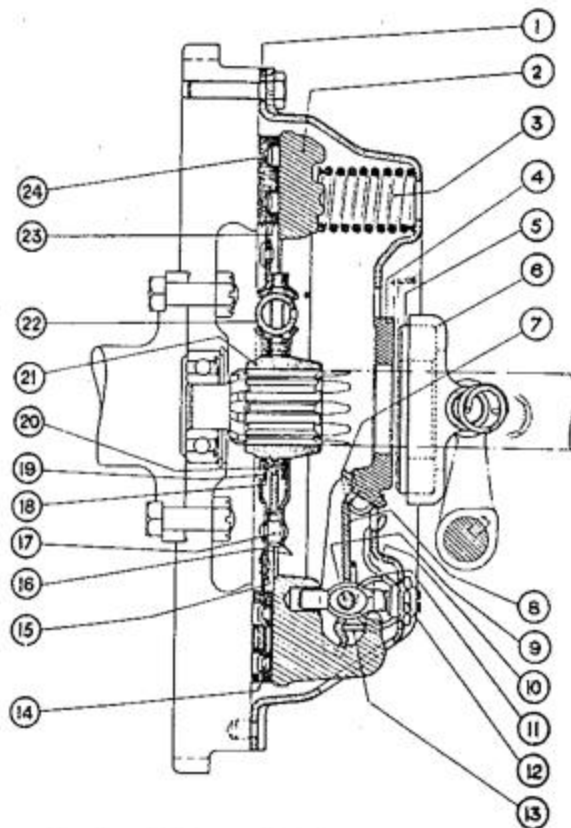

Fig. 1. Sectional view of clutch.
GENERAL DESCRIPTION (See Fig. 1)
Note: The adjustment nuts (12), Fig. 1, are correctly set and locked when the clutch
DISMANTLING (see Fig. 1)
ASSEMBLING (see Fig. 1)